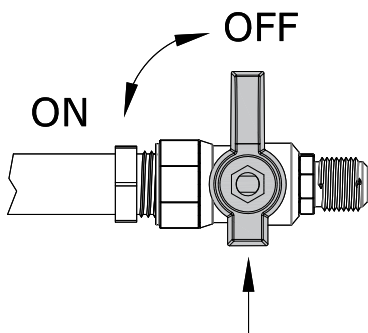

Figure 7.13 - Turn Off Gas
1. First locate the main shut-off valve upstream of the appliance connector and close the valve. Figure 7.13. Then disconnect the electrical power of the fireplace.